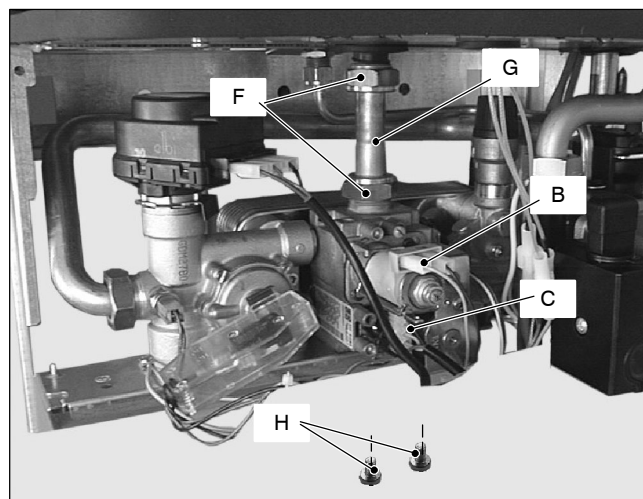

Fig. 45
- 2 Disconnect the connectors *B* (Fig. 45) from the modulating operator and measure the electrical resistance of the coil. Its electrical resistance value must be approx. $80\ \Omega^*$.
- 2 Disconnect the electrical connector *C* (Fig. 45).
- 2 Disconnect the connectors *B* and *C* (Fig. 45).